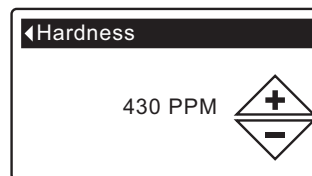

FIG. 42
5. Press the OK/MENU button to display the Hardness screen (See Figure 42).